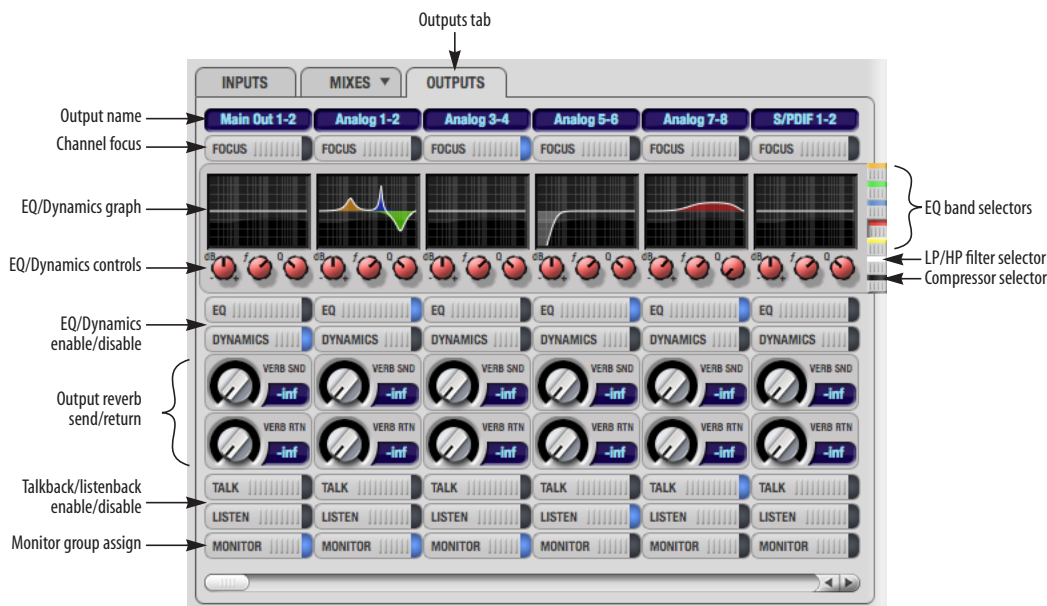
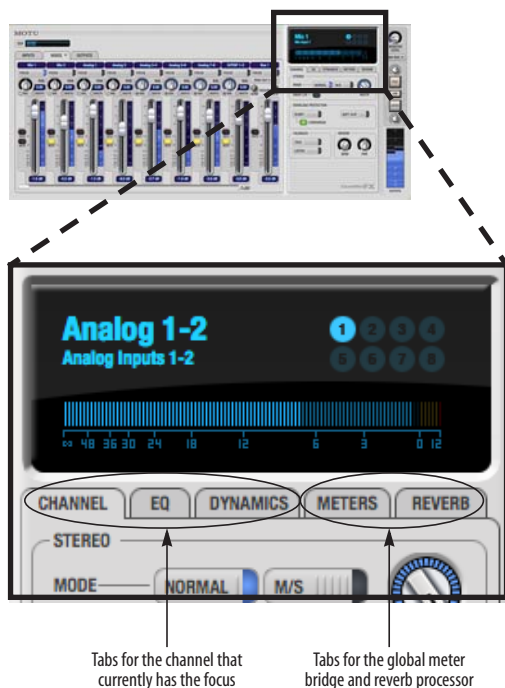
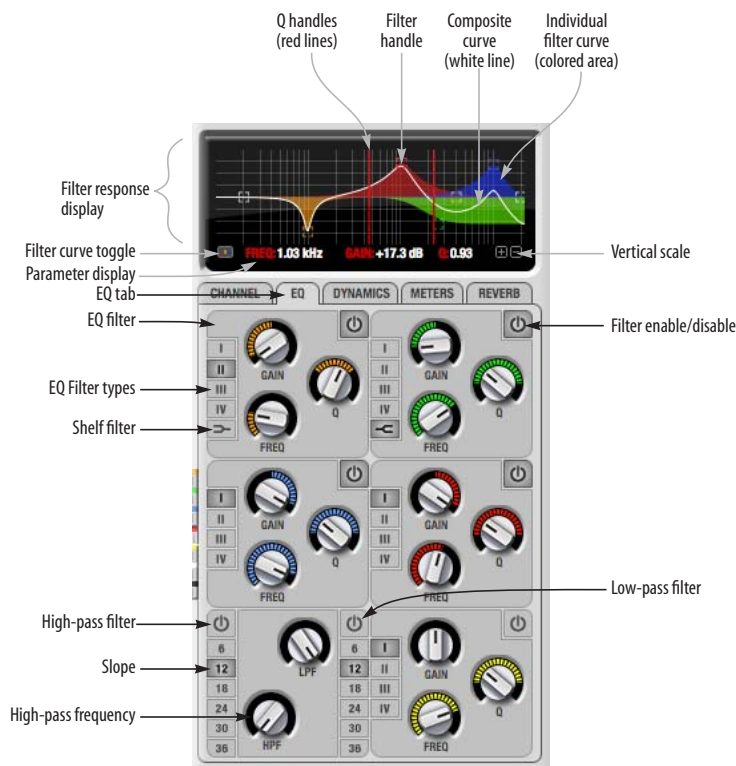
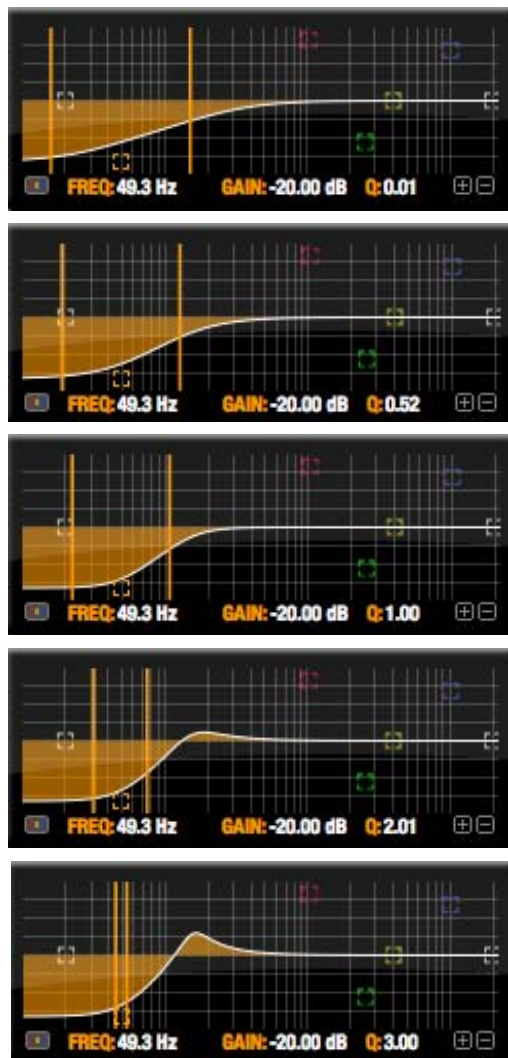

Figure 11-6: The Outputs tab.
Figure 11-7: The Channel Settings section.
Figure 11-10: The EQ tab.
Figure 11-17: Shelf filter Q parameter overshoot.
Click the channel focus button (Figure 11-3) to view and edit parameters in the channel settings section of the CueMix FX window (Figure 11-7 on page 82). Clicking the mix bus master fader focus button brings the assigned output into focus, if there is one.
Click the channel focus button (Figure 11-3) to view and edit parameters in the channel settings section of the CueMix FX window (Figure 11-7 on page 82).
The EQ/Dynamics graph for each input channel strip (Figure 11-3) provides a thumbnail view of the EQ curves or Compressor graph for the channel. This graphic is for display purposes only; it cannot be edited directly. To change the EQ settings in this graph, use the two or three knobs below, as explained in the following sections. If, however, you would like to edit the EQ curves graphically, you can do so in the EQ tab (Figure 11-10 on page 84).
**Important:** before you can modify the settings of an EQ band using the three knobs below the graph, the EQ band must be enabled. This is done in the EQ tab (Figure 11-10), as explained in “Enabling EQ” on page 85.
The Outputs tab (Figure 11-6) lets you apply EQ, dynamics and reverb to any output pair, just before the signal leaves the 896mk3. This is processing that occurs at the very end of the signal flow, after everything else (host based effects, 896mk3 input or bus processing, mixing, and so on). Processing is done in the digital domain, just before the signal goes analog through the D/A converter. Output tab processing is applied to the entire output mix (all signals being mixed to the output from various sources).
Click the channel focus button (Figure 11-6) to view and edit parameters in the channel settings section of the CueMix FX window (Figure 11-7 on page 82).
The EQ/Dynamics section in the Outputs tab (Figure 11-6) works identically to the EQ/Dynamics section for the Inputs tab (Figure 11-3). See “Input EQ and dynamics” on page 79.
The output reverb *send* (Figure 11-6) feeds the signal for the output to the 896mk3’s global reverb processor, where it is merged with any other signals being fed to the reverb. The reverb’s output can then be fed back into the mixer at various return points, including the same output from which it was sent (discussed below). The output reverb send is disabled (grayed out) when the reverb *Split Point* is set to *Mix* to eliminate the possibility for feedback loops created by reverb send/return loops. See “Split point” on page 94.
The output reverb *return* (Figure 11-6) feeds the output of the 896mk3’s global reverb processor directly to the output. This includes any other signals currently being fed to the reverb.
Click the *Talkback* or *Listenback* buttons (Figure 11-6) to toggle whether the output pair is included in the Talkback or Listenback group. See “Talkback and listenback” on page 96.
Click the Monitor buttons (Figure 11-6) to toggle whether the output pair is included in the Monitor group. See “The Monitor Group” on page 95.
The EQ tab (Figure 11-10) displays the EQ settings for the input or output channel that currently has the focus. Click any focus button in the Inputs or Outputs tab to view the EQ tab settings for the channel.
Inspired by legendary British large console EQs, the 896mk3 *Vintage EQ section* (Figure 11-10) gives you the look, feel and sound of the most sought-after classic equalizers. Five bands of center frequency parametric EQ filtering are provided, each with four EQ types that provide current popular EQ styles and vintage analog EQ styles alike. Two bands include shelf filtering. Two additional bands of variable slope low pass and
Each input and output channel has a global *EQ enable/disable* button (Figure 11-3 and Figure 11-6). This button enables or disables all bands of EQ for the channel. In addition, each individual band of EQ has a *Filter enable/disable* switch (Figure 11-10), allowing you to enable as few or as many bands as needed for each individual channel.
Each filter can be independently turned on or off with the enable/disable button (Figure 11-10). Each filter can be set to one of four different filter
The frequency response display at the top of the window displays the response curve of the current settings in the window. The (horizontal) frequency range is from 10 hertz to 20 KHz. The (vertical) amplitude scale is in dB and is adjustable between 3 and 24 dB using the *vertical scale* buttons (Figure 11-10).
To view a filter in the display, turn on the filter. The shape of the filter, according to its current settings, is shaded in the same color as the filter’s knob(s). Use the *filter curve toggle* (Figure 11-10) to show or hide them in the display.
When two top-most bands in the EQ tab are set to their *shelf filter* setting (Figure 11-10), the Q parameter controls the amount of overshoot applied to the response curve, as illustrated in Figure 11-17. When $Q = 0.01$ (the lowest setting), normal shelving is applied with no overshoot. This produces the response provided by a first order shelf. When $Q = 1.0$ (the default setting), the
response corresponds to a second order shelf, still with no overshoot. This is the same response as conventional parametric EQs. In some situations, this form of accurate, clean shelving can sound harsh, especially when compared to legacy analog EQs. To soften the results, the overshoot is increased as Q is increased, as shown Figure 11-17 for Q values of 1.00, 2.00 and 3.00. This overshoot region produces a boost in frequencies just above the cutoff, which compensates in a smooth, more pleasing fashion for the perceived drop in low frequencies being cut.